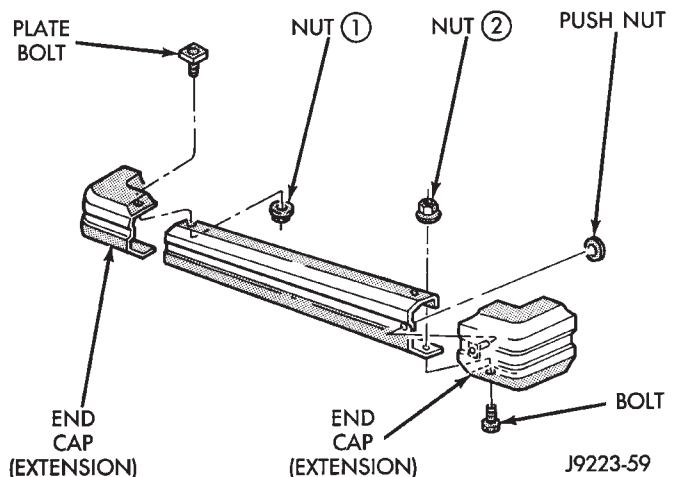
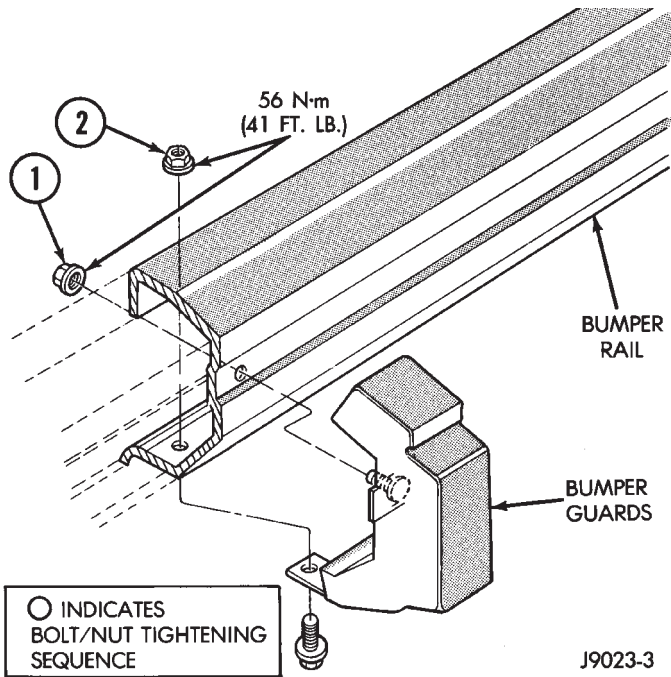

Fig. 14 Bumper End Cap Removal/Installation—XJ Vehicles
Fig. 15 Bumper Guard Removal/Installation—XJ Vehicles
(7) Remove the bumper end caps (Fig. 14) and bumper guards from the bumper (Fig. 15), if necessary.
(3) Tighten the nuts in the sequence depicted in Figure 14. Tighten the bumper end cap plate bolt